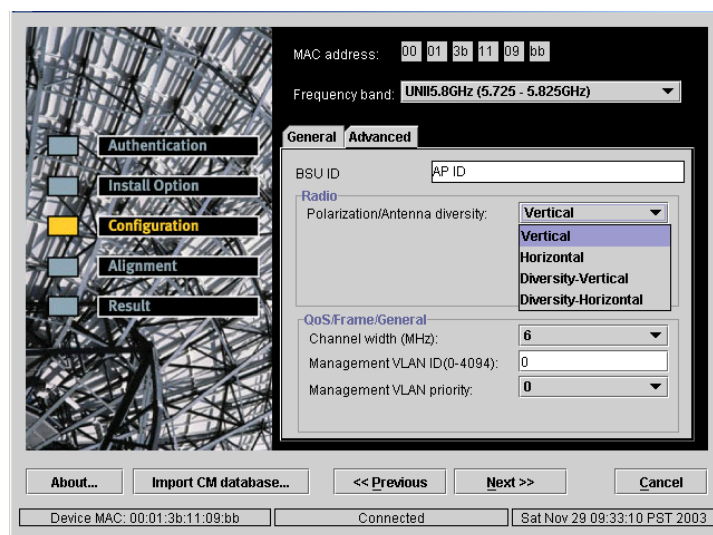

Figure 5-7 Configuration Window: Advanced
13. In the Configuration Window, click on the **Advanced** tab to view additional configuration options as shown in *Figure 5-7*. Configure the following parameters as appropriate: